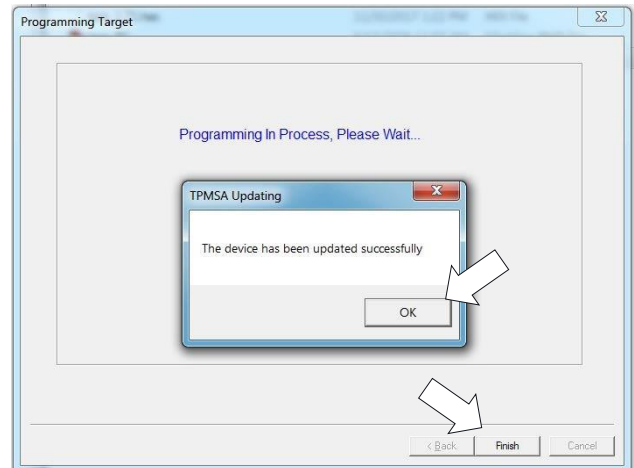

Figure 8 – Final Programming Screen
10. When the programming is complete, the screen will contain the pop up window shown in Figure 8. *Select the “OK” button and then select the “Finish” button to complete the programming of the Bendix™ SmarTire® TPMS Maintenance Tool.*